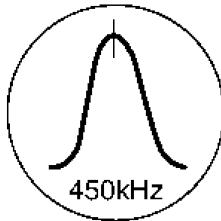

Fig.6
4. Adjust Z102 so that the output frequency is maximized in Fig. 6.